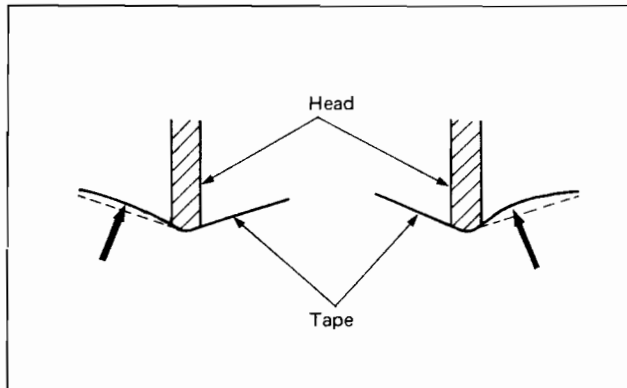

Fig. 5-11
2. Weakly pressing the tape which is running in the left and right of the D/AD, D/S REC, and D/PB heads, check that the contact pressures meet the specifications. (Fig. 5-11.)